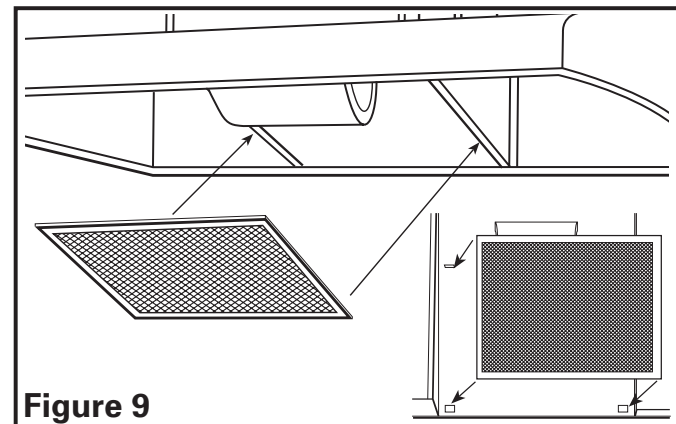

Figure 9
1. Install the appropriate filters, sliding the back side of the filter into the tab and pressing the front of the filter into place (Figure 9).